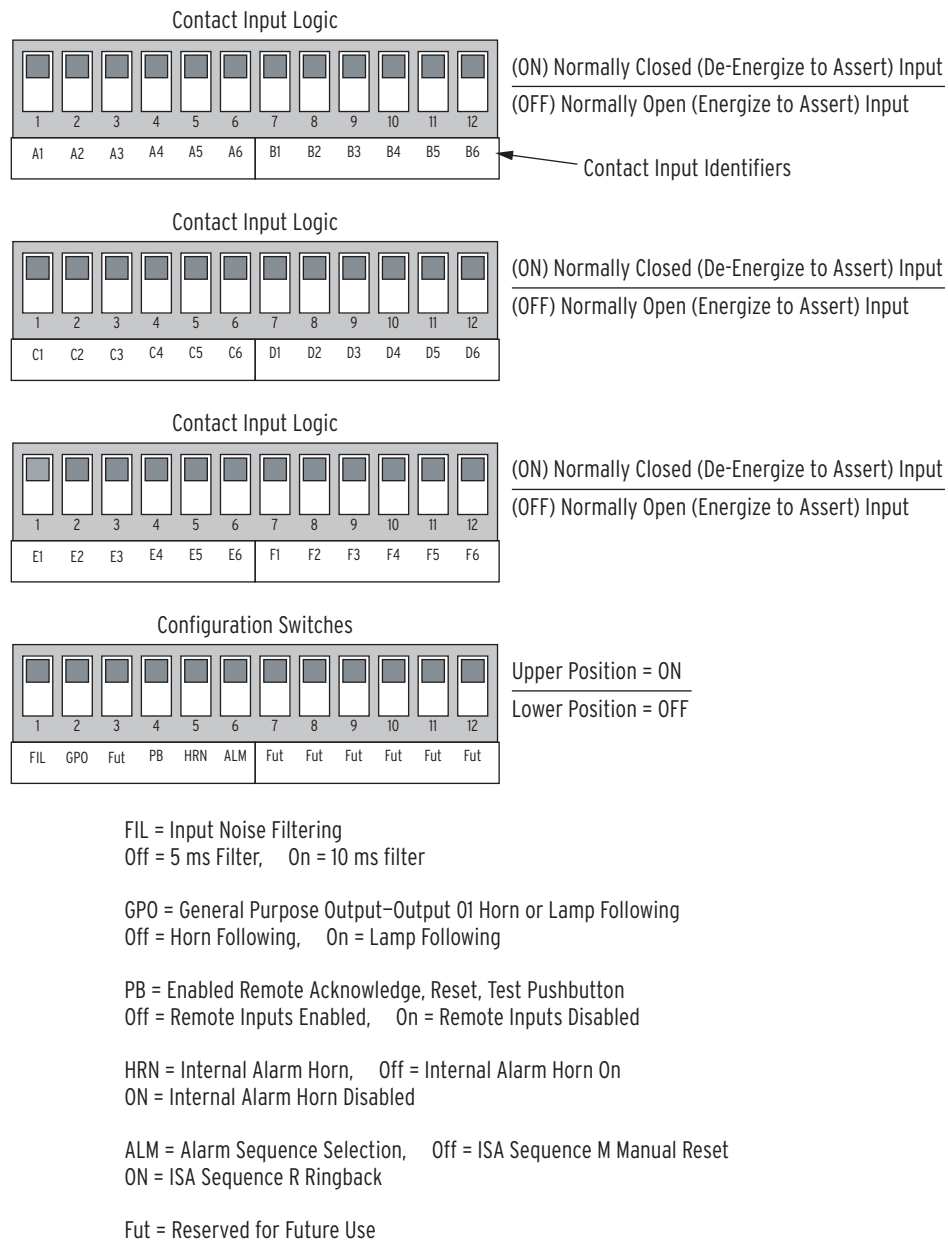

Figure 14 Control (DIP) switch Configuration Settings
As shown in *Figure 14*, three of the four 12-position control (DIP) switches are dedicated to providing the input logic configuration needed for allowing operation with normally open (Form A), or normally closed (Form B) contact inputs. Inputs configured for normally open operation will enter into an active alarm state (LED Flashing, Horn On) when input voltage is applied to the respective input. Inputs configured for normally closed operation will enter into an active alarm state when input voltage is removed from the respective contact input.
The first control (DIP) switch in the fourth bank, labeled FIL in *Figure 14*, is used to select the filter time constant for all contact inputs to the SEL-2522 alarm panel. When this switch is in the Off position a 5 ms debounce time is used to provide rapid response with a minimal time delay. When this switch is in the On position, a 10 ms debounce time is used to provide a more secure input response for signals which require a longer settling time. The factory-default setting for this switch is the 5 ms setting.
The PB control (DIP) switch (see *Figure 14*) is used to enable or disable contact inputs used for remote operation of the Acknowledge, Test, and Reset pushbutton functions. When this control (DIP) switch is in the lower (OFF) position, the remote pushbutton functions are enabled and operate in parallel with the integrated pushbuttons for those functions found on the front of the alarm panel. When the PB control (DIP) switch is in the upper (ON) position, the remote pushbutton functions are disabled, effectively blocking any operation of the remote inputs.
The HRN control (DIP) switch (see *Figure 14*) is used to enable or disable the internal alarm horn. When the HRN control (DIP) switch is in the lower (OFF) position, the internal alarm horn is enabled and follows the audible indications shown in *Table 1*.
The ALM control (DIP) switch (see *Figure 14*) is used to select the alarm sequence. When the ALM control (DIP) switch is in the lower (OFF) position, the manual sequence is selected, and alarm conditions are processed using the manual reset logic shown in *Figure 7*. When the ALM control (DIP) switch is in the upper (ON) position, the ringback sequence is selected (see *Figure 7*).